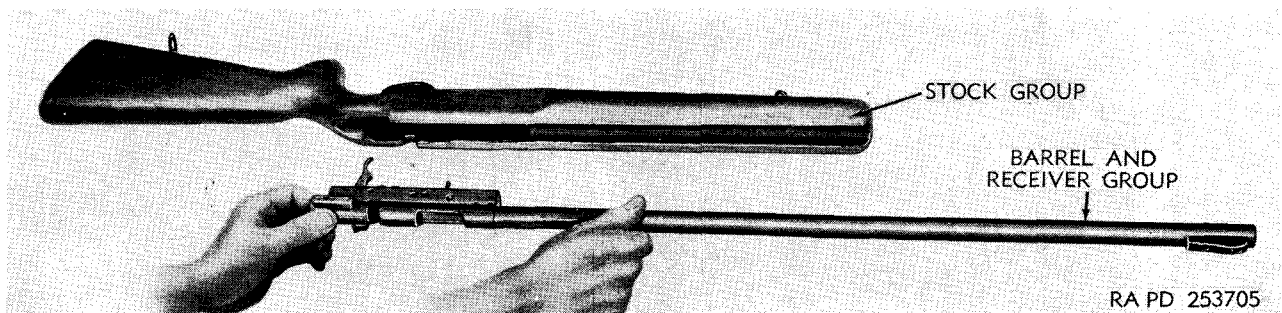
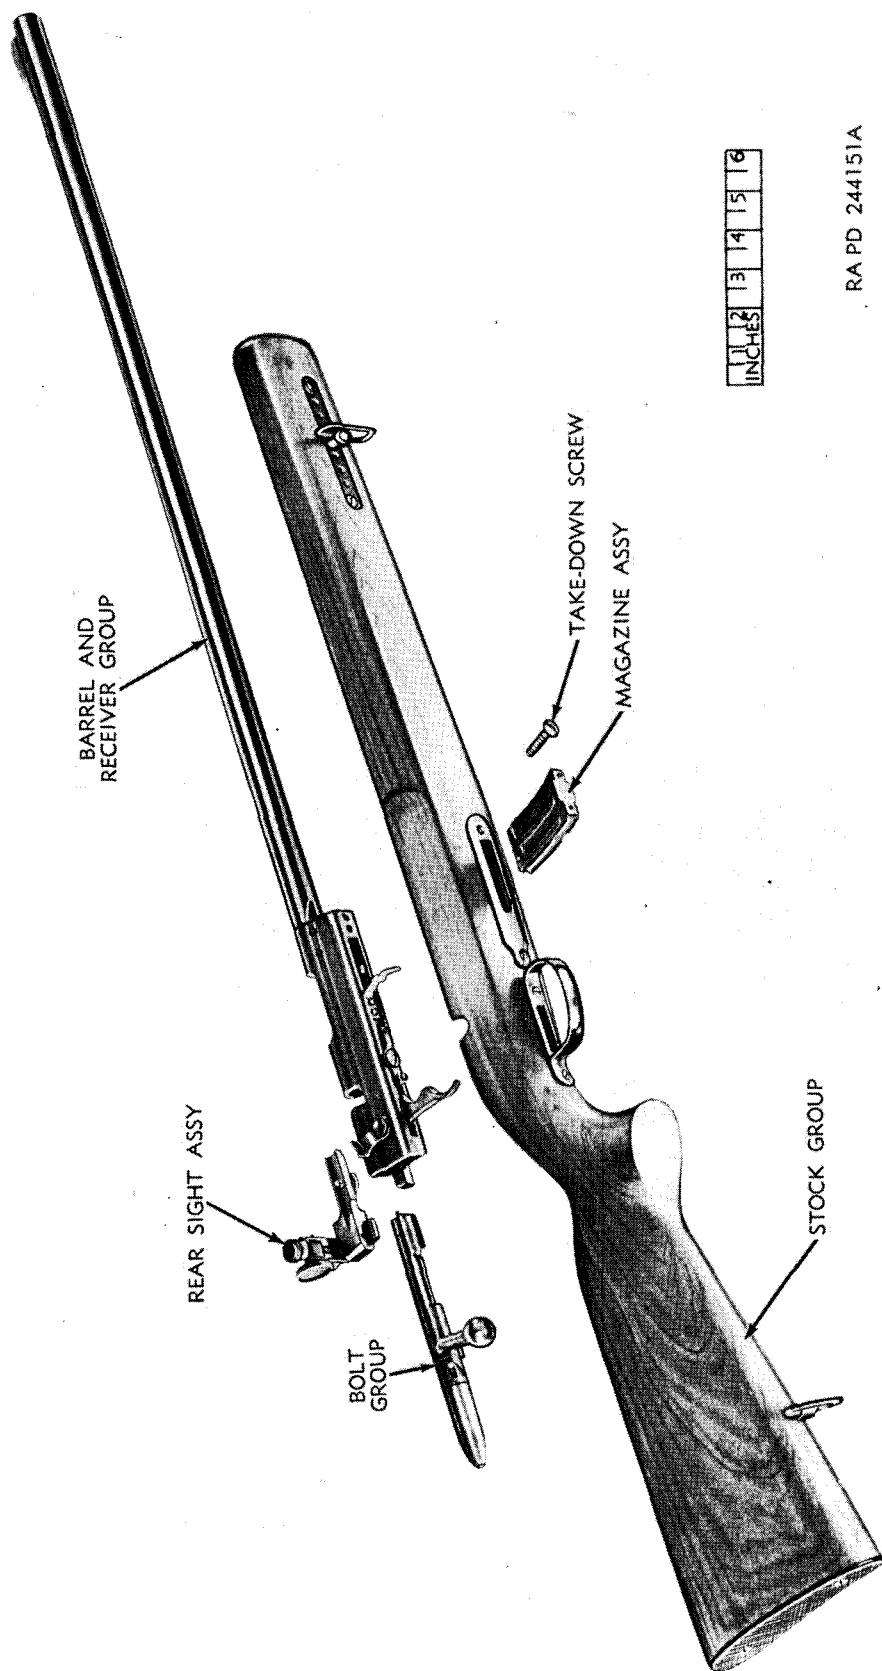

Figure 33. Removing or installing barrel and receiver group from stock group (Remington rifle M513T).
Figure 34. Remington rifle M513T—components.
The Remington rifle M513T consists basically of the bolt group, magazine assembly, rear sight assembly, barrel and receiver group, and stock group (fig. 34).
e. *Stock Group* (fig. 34). The stock group houses the barrel and receiver group to protect
57. Disassembly Into Components (fig. 34)
e. *Remove Barrel and Receiver Group.* (fig. 33). Remove the takedown screw (fig. 34) from the front end of the magazine guide plate. Remove the barrel and receiver group from the stock group.
a. *General.* The magazine assembly is authorized for issue to organizational maintenance personnel. However, this is the only component of the rifle authorized. The maintenance of these weapons will be limited to that required by cleaning operations described in paragraph 49 and by lubrication operations described in paragraph 44. Inspection is for the purpose of determining the condition of the rifle and whether repairs and adjustments are required to insure its serviceability. When disassembling the rifle for cleaning purposes, inspect the rifle as described in (1) through (3) below.
- (1) Inspect the sling as a unit for appearance, general condition, flexibility, and function of metal components.
- (2) Check hooks and loops for deformation and burs.
- (3) Check the sling for cut or frayed webbing of strap and for positive retention of hook and keeper.
a. Install Barrel and Receiver Group (fig. 33).
- (1) Install the barrel and receiver group in its aperture in the top of the stock.
- (2) Insert the takedown screw (fig. 34) through the front hole of the magazine guide plate and tighten the screw.